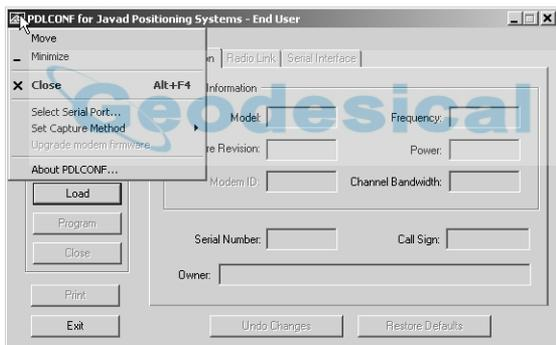

Figure 2-26. PDL Top Left Corner Icon Menu
7. Click the **Pacific Crest logo** in the upper left corner of the main screen (Figure 2-26).